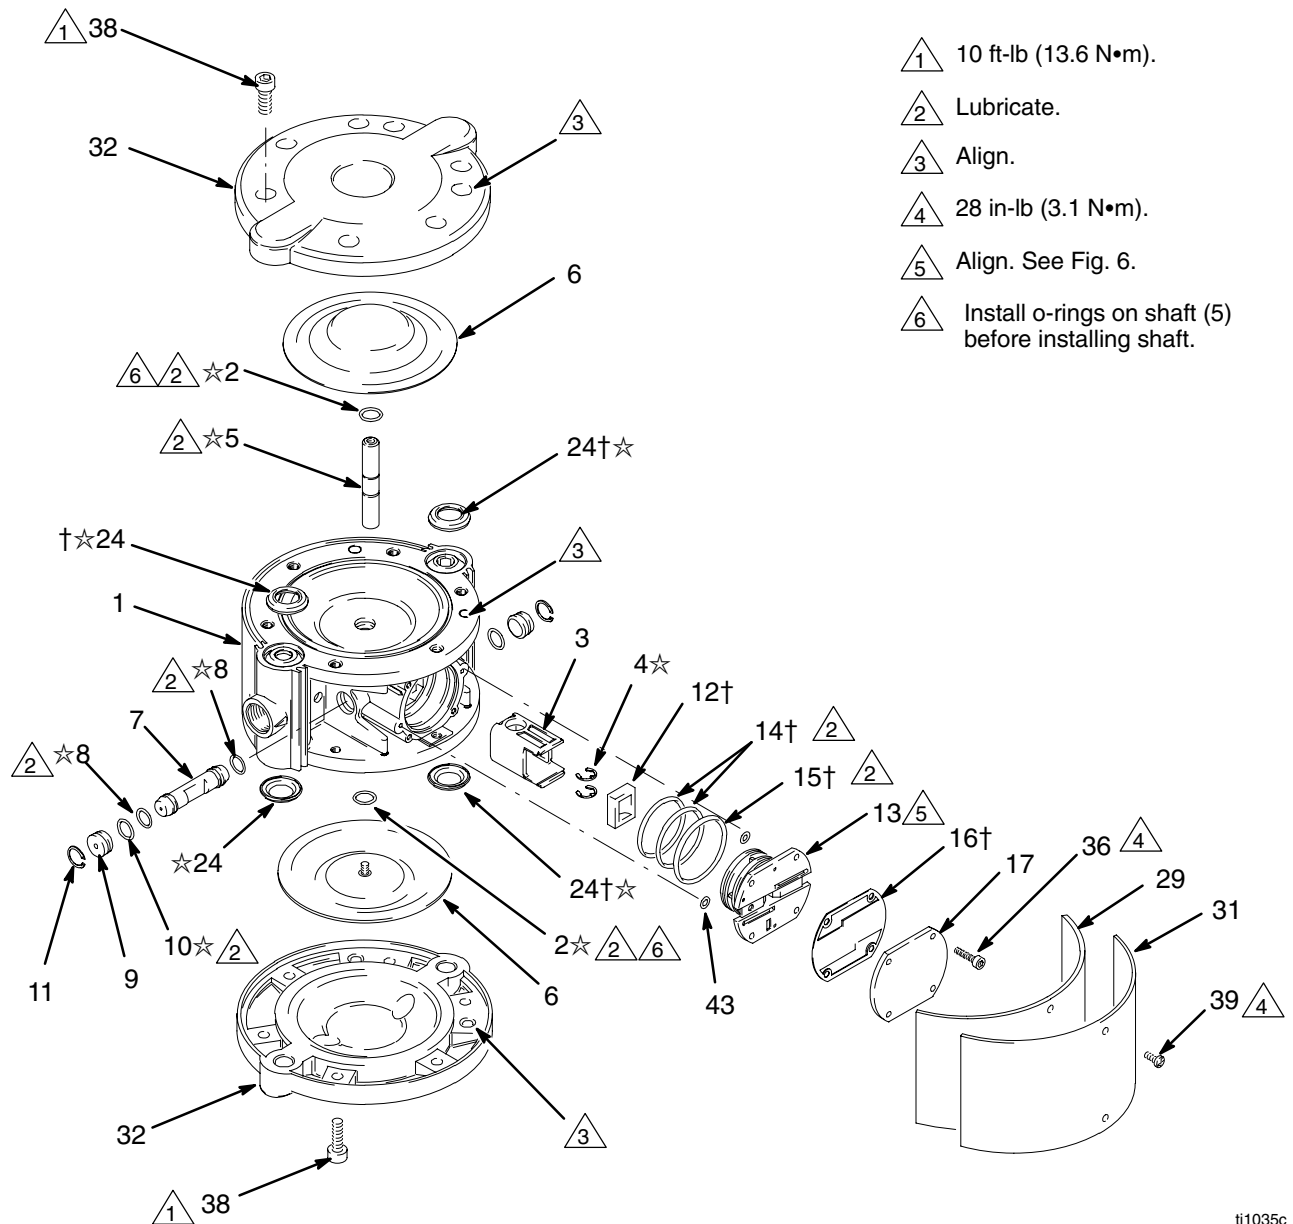

Fig. 8
1. Remove the fluid covers. See page 14. Remove the side cover (31) and felt dampener (29).
3. Remove the diaphragms (6). See page 17.
4. Remove the retaining rings (4☆) from the shaft (5). See Fig. 8.
5. Slide the shaft (5) out of the center housing (1). Remove the valve carriage (3) from the housing.
6. Remove the o-rings (2) from the shaft (5).
7. *If you could not remove one diaphragm from the shaft, place the shaft in a vise with soft jaws. Unscrew the remaining diaphragm (6) from the shaft (5) by hand.*